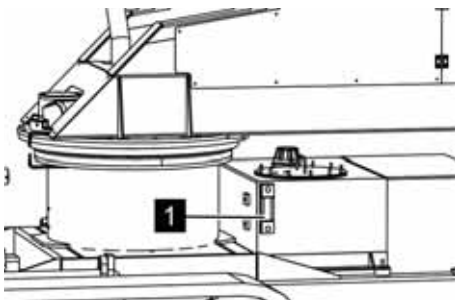

Fig. 138: Hydraulic oil inspection glass
5. ➤ Check the oil level on the inspection glass (Fig. 138/1).